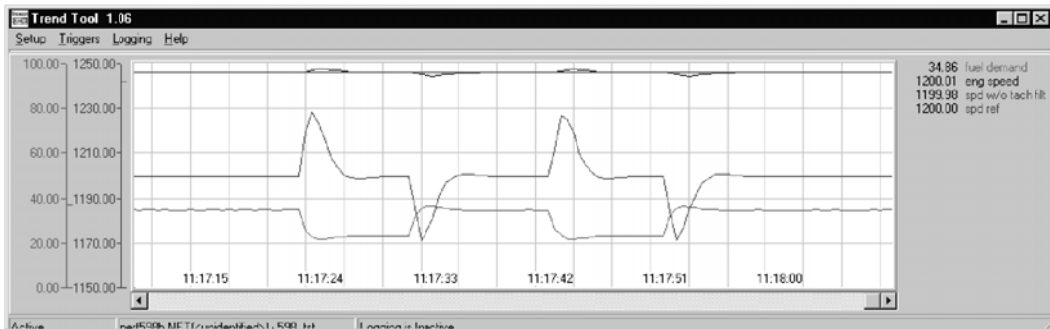

Figure 5-5. Trend Tool Trace Example 5
21. Figure 5-5 shows results of just increasing Gain from 1.235 to 3.0. Gain Ratio and Window Width remain disabled. Peak rpm is reduced approximately 10–12 rpm.